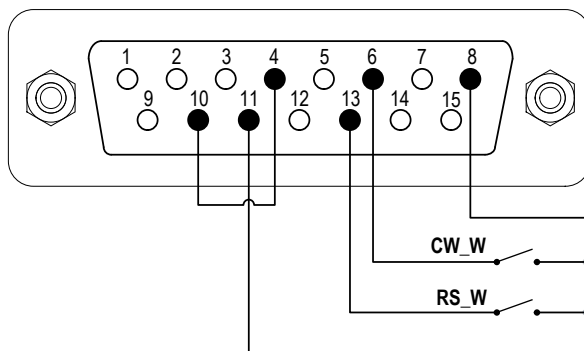
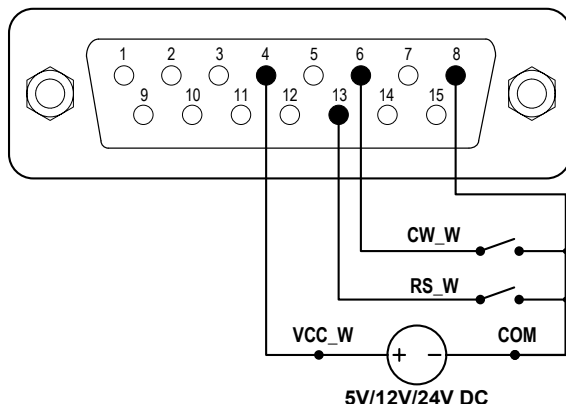

Figure 17. Logic Level 2 Control with the Internal 12V Power Source
Figure 18. Logic Level 2 Control with an External Power Source
- 1) Turn off the power. Wire the DB15 connector as shown in Figure 17 or Figure 18, and connect it to the DB15 port on the rear of the pump.